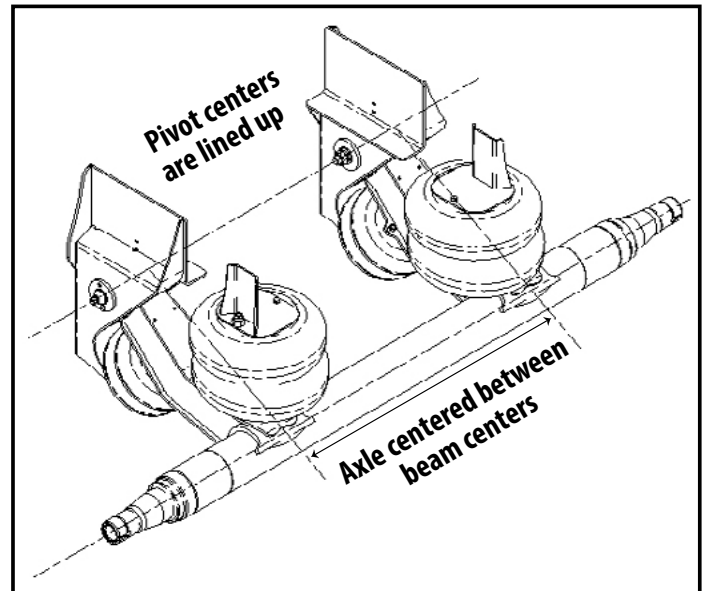

Figure 3.
- Center the axle assembly on the beams (Figure 3).